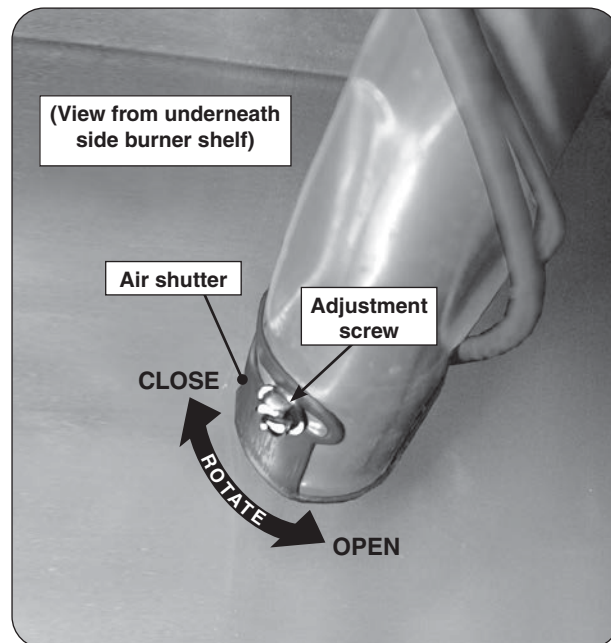

Fig. 37-1 Side burner air shutter adjustment detail
2. Loosen the adjustment screw with a flathead screwdriver, then carefully rotate the shutter to open or close it. See Fig. 37-1 for details.